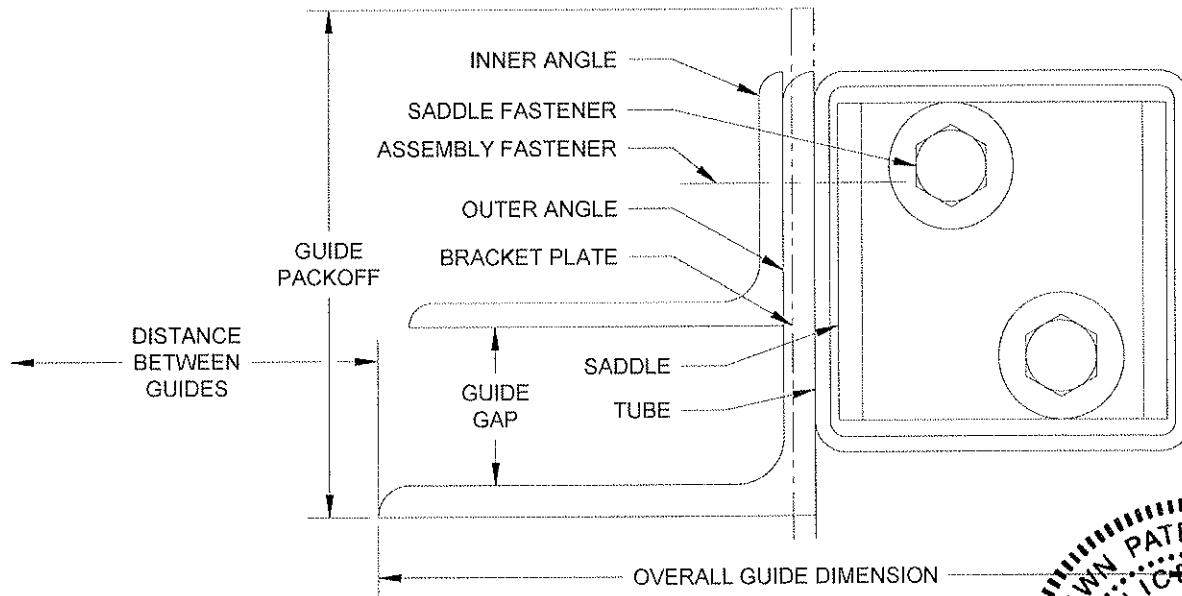

Figure 5.10 – Between Jambs Two-Angle Guide Mounting to Tubes
- Determine where the fascia of the door will be located with respect to the header/lintel (if one exists) and the jamb. See **Figure 5.10**.